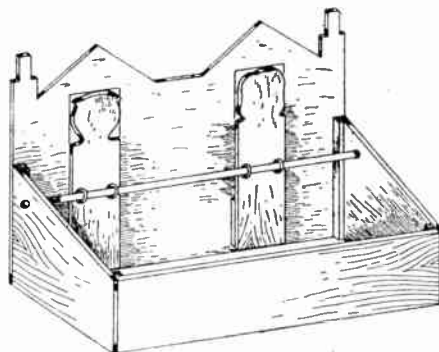

Fig. 5—Back view
Glue the two pieces of strip-wood (D) on the back face of the front $\frac{3}{16}$ in. from the side edges, and glue the 2in. lengths on the inner face of the sides $\frac{3}{16}$ in. from the back edge. The front, sides and back are now fixed with glue, and a glance at Fig. 5 shows clearly the parts in position. The length of $\frac{1}{4}$ in. dowel is next slipped in position with the two face figures in place, and the rod is secured with a little glue applied at each end.